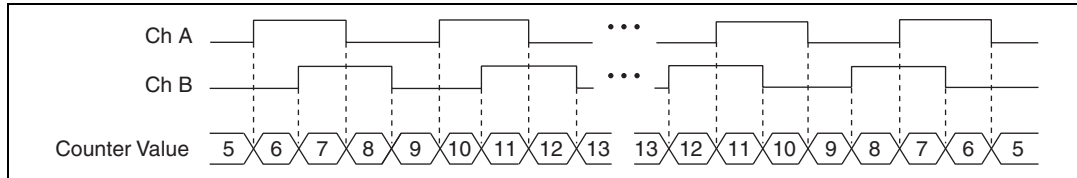

Figure 8-16. X4 Encoding
- X4 Encoding**—Similarly, the counter increments or decrements on each edge of channels A and B for X4 encoding. Whether the counter increments or decrements depends on which channel leads the other. Each cycle results in four increments or decrements, as shown in Figure 8-16.